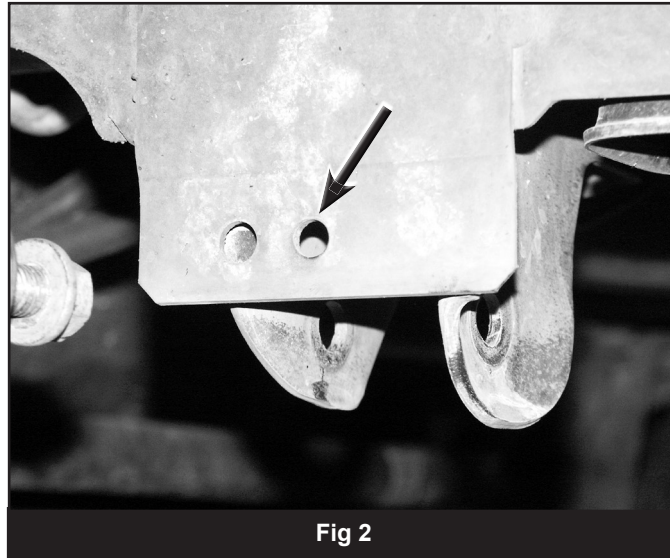

Fig 2
5. Locate the center hole in the outside of the OE track bar mount (Fig 2) on the driver's side of the vehicle. Drill hole out to 1/2".